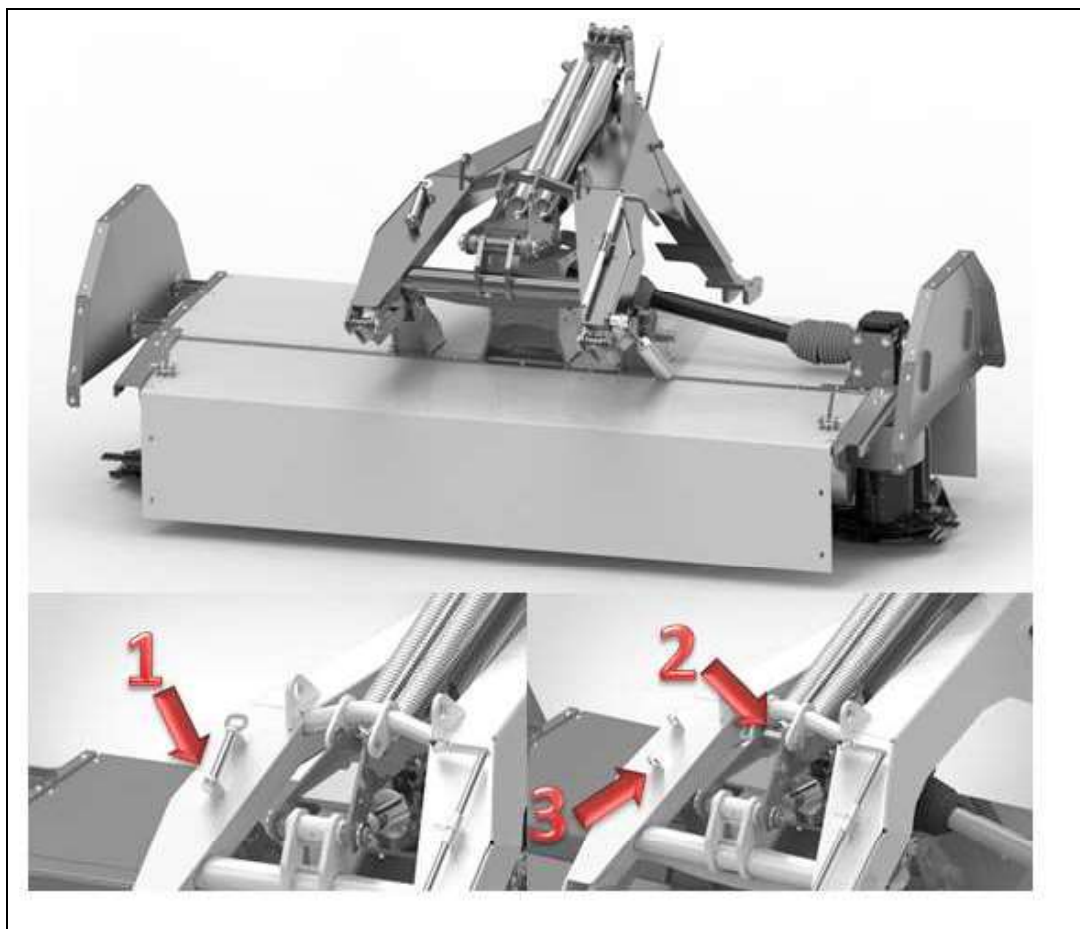

Fig. 5 Transport lock
After raising the mower to the transport position, place the securing pin, (1) in Fig.5, in the holes of the suspension system, (2) in Fig.5, to prevent the machine from accidental drop should the cylinder stop working. When the mower is unlocked to the service position, place the pin, (1) in Fig.5, in the socket, (3) in Fig.5.